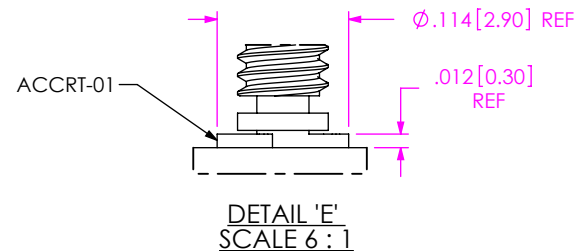

FIG 8
- DS: DUAL SCREW DOWN FOR .062 BOARD (SEE FIG 8, SHT 3) (ONLY AVAILABLE WITH -01, -02 AND -03 LEAD STYLE) (NOT AVAILABLE WITH OPTIONS -N, -A, -LC, -P, -TR, -K, -SN AND SN2), (USES SFM-XX-D-DS, CPS-RR-XX-XX-X, ACCRT-01 AND WT-27-XX-T ALWAYS FILLED)